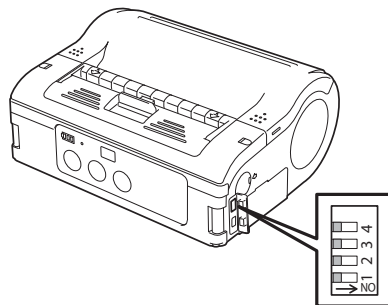

**Figure 4-4, Printer with DIP Switch Cover Open**
2. You can pry open the USB/DIP switch cover so that the DIP switches are accessible to you. Use a small screwdriver to pry outward the small black vinyl cover labeled DSW on corner of unit as it is shown in Figure 4-4.
3. Look straight downward into the DIP switch compartment or panel in order to see the white DIP switches. Next to switch number 1 is a directional arrow showing the On setting direction. Off is in the opposite direction. Figure 4-4 also shows the On arrow.